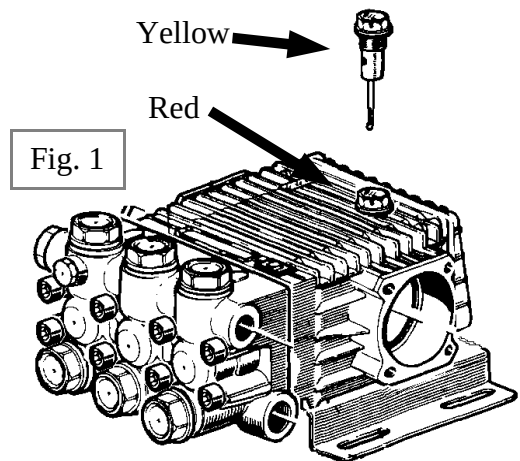

Fig. 1
1. Verify that the vented YELLOW dip stick is installed in pressure washer pump. **Remove the RED shipping plug (if present) from top of the pump and replace it with the YELLOW oil level dipstick provided. Fig. 1**